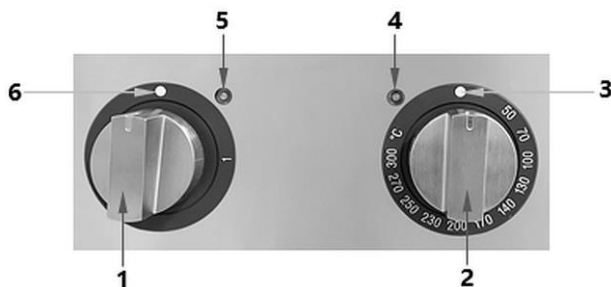

Fig. 7
- Turn the main control knob (1) to position 1 (Fig. 7).